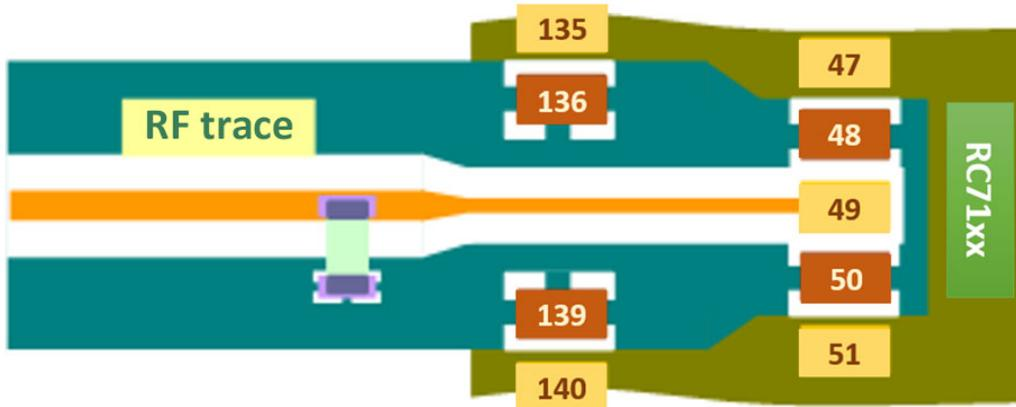

Figure 5-4: Trace width and component pad
- The antenna interface (RF_MAIN) and related GND pads should be considered as an integrated part of the radio input/output (see Figure 5-4).
As shown in Figure 5-4, part of the RF trace is routed under the module. To account for the metallic mass of the module, the RF trace width may need to be slightly reduced before going under the module. Thus, under the module, the structure of the RF line becomes a stripline.